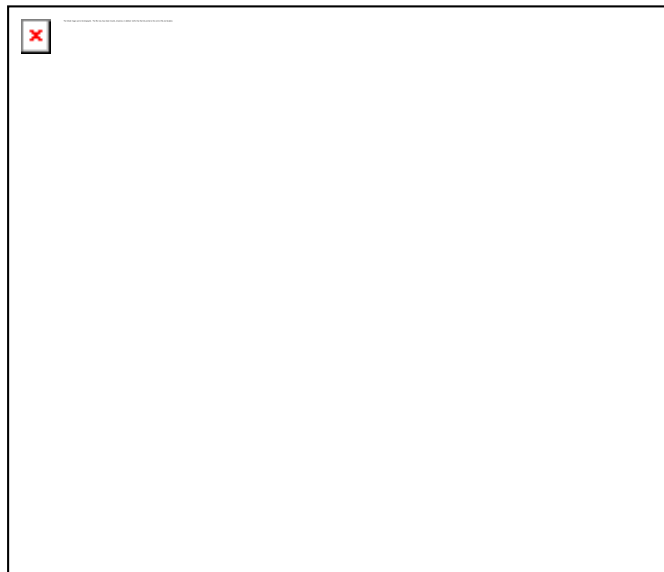

Figure 9. Engine component removal.
- Coolant pipe (Figure 9, image 1).
- Coolant flange (Figure 9, image 2).
- Pulley and if needed bracket, of power steering pump (Figure 9, image 3).
- Pulley of the water pump (Figure 9, image 4).
- Coolant tube (Figure 9, image 5).
- Dipstick tube (Figure 9, image 6).